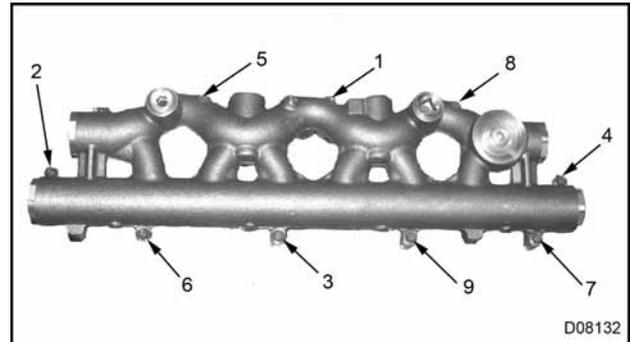

Figure 263 Torque sequence for oil rail bolts
5. Finish installing the remaining bolts finger tight. Torque bolts to the special torque (Table 11) following the sequence in (Figure 263).
8. Torque crankcase-to-head assemblies to the special torque (Table 11) (Figure 263).